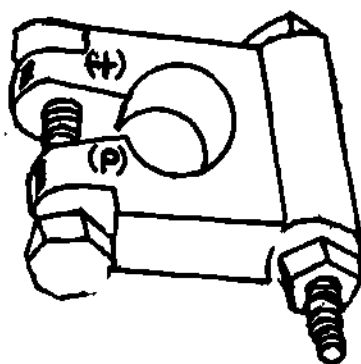
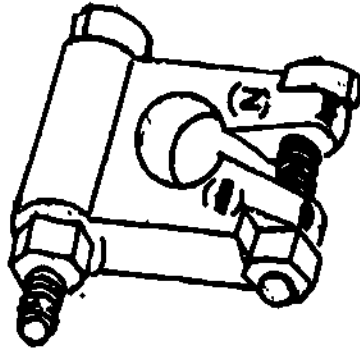

Fig 1-63. Positive battery clamp.
Fig 1-64. Negative battery clamp.
- **Battery clamps.** There are two types of battery clamps and they both perform the same job. They make the connection between the battery post(s) and battery cable(s). Here's the difference; the positive clamp (fig 1-63) has a bigger hole than the negative clamp (fig 1-64). The reason for this is to help avoid installing the wrong cable(s) on the wrong battery post(s).
The positive post is larger in diameter than the negative post. Most clamps also have a symbol to help distinguish the difference. For the positive clamp a mark such as this (+) or the letter P is used (fig 1-63) and for the negative a mark like this (-) or the letter (N) is used. Clamps should NOT be interchanged. It is physically possible to do so but here's what may occur. The clamps, being of different sizes, will not fit properly, causing a poor connection. More important, if a positive clamp were interchanged with a negative clamp, we have set the stage for possible injury and/or damage to the vehicle's electrical system. An operator will use the markings on the clamps + or - to assist in correctly installing the cables. We have defeated that purpose by using the wrong clamp. Regardless of what type marking is on the clamp it does not change the purpose of the cable. So we have a negative cable with a positive clamp which to be correctly installed must be attached to the negative post on the battery. Will the operator connect it this way? Since he has at all other times connected the clamp marked + to the positive post, why would he now do it differently? If the wrong connection is made, the battery may spark, injury may result, and possible damage may be done to the generator, regulator, and wiring. Clamps can also be installed upside down. This is possible because clamps are designed with a tapered hole (A, fig 1-65). The widest portion faces down towards the battery. When installing the clamp in this manner, you will match the taper on the battery posts. If installed upside down as in B of figure 1-65, the tapers do not match; the widest point of the clamp will be up which means it has to match the narrowest point of the post. It cannot, so there will be a portion of the clamp that does not touch the battery post (C, fig 1-65), resulting in a poor connection. Clamps are also subject to becoming broken, cracked, or otherwise deformed and the bolts which hold them are subject to corrosion. Clamps should never be installed by using a hammer to beat them on. This method will result in cracking the battery in the area where the bottom of the post is flush with the battery.